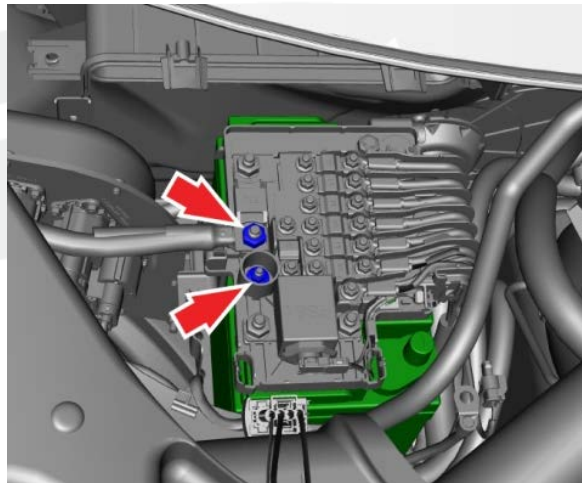

Figure 6
12. Remove the body harness nut (torque 6 Nm) and fuse box mounting nut (torque 6 Nm) (Figure 6).